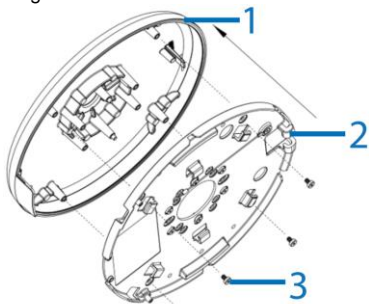

Figure 2
2. Insert the camera adaptor plate (2) (Figure 2) into the pendant cap (1) (Figure 2) and align the four holes on both.